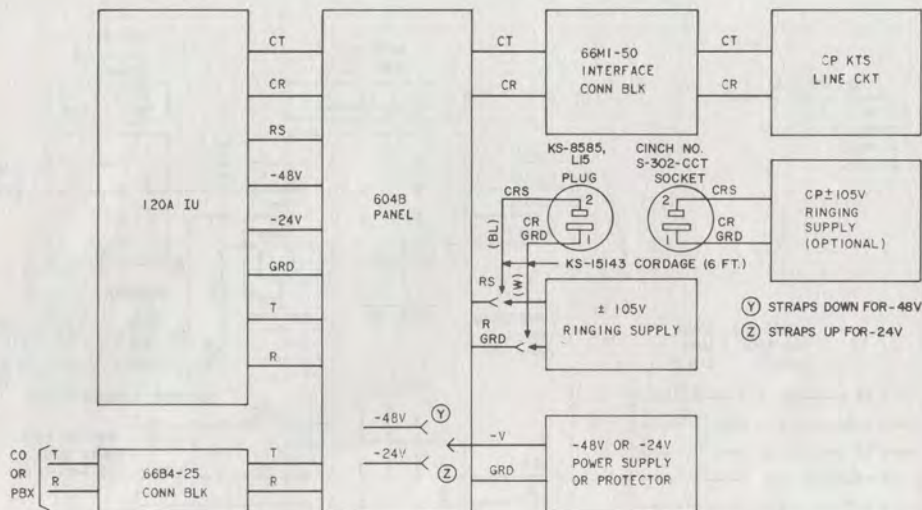
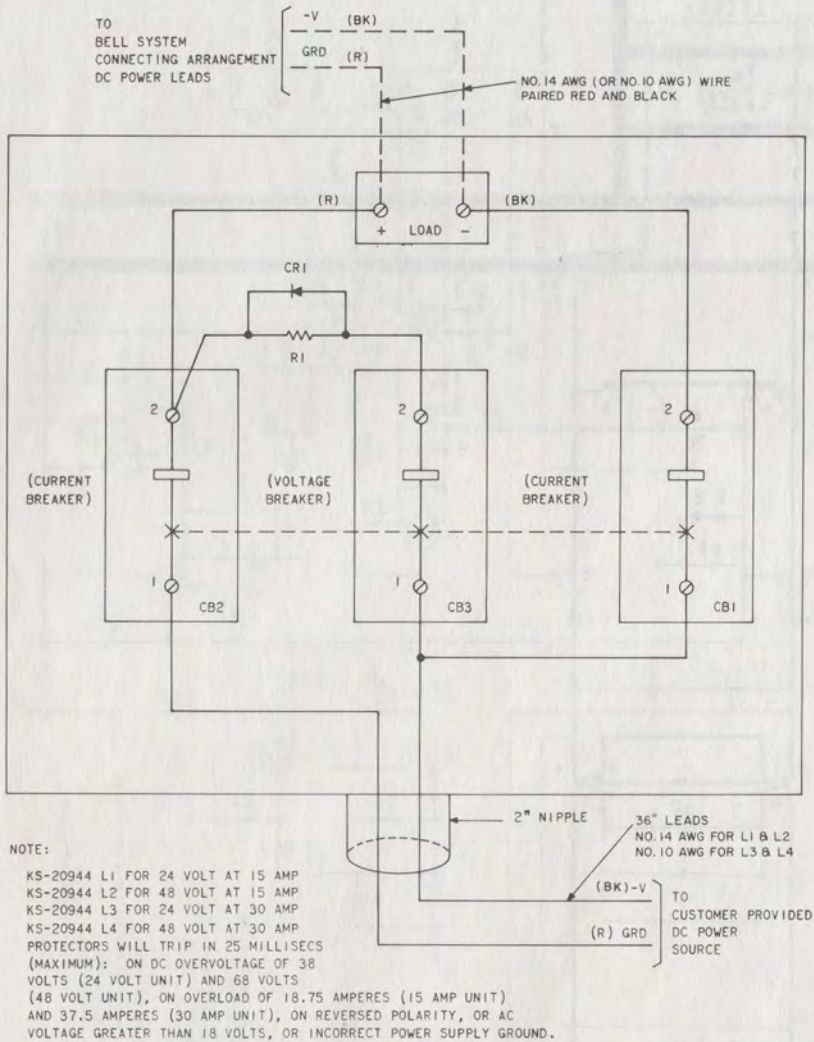

Fig. 7—Block Diagram—120A Interconnecting Unit in 604B Panel
Fig. 9—Schematic Diagram—KS-20944 Protector
604B Panel (Fig. 7 and 8, Tables A, B, and C)
3.10 Either Telephone Company or customer-provided ringing supply and dc power are connected to the terminals shown in Table E. Customer-provided dc power must be routed through the KS-20944 protector before connecting to the dc input terminals on the rear of the 604B panel. (See Fig. 9.) When using a CP ringing supply, provide a 6-foot cord (KS-15143, 2-conductor, 18-gauge) terminated in a KS-8585, L15 plug (Cinch Mfg. Co. No. P-302-CCT plug) for connecting the CP ring supply. Customer must furnish mating socket Cinch Mfg. Co. No. S-302-CCT. See Fig. 7.
KS-20944 Protector (Fig. 9)
3.16 Connect as shown in Fig. 9 following wiring instructions in Section 463-300-109. The customer must connect his power supply to the red (+) and the black (-) 14-gauge lead (or 10 gauge) extending from the unit.